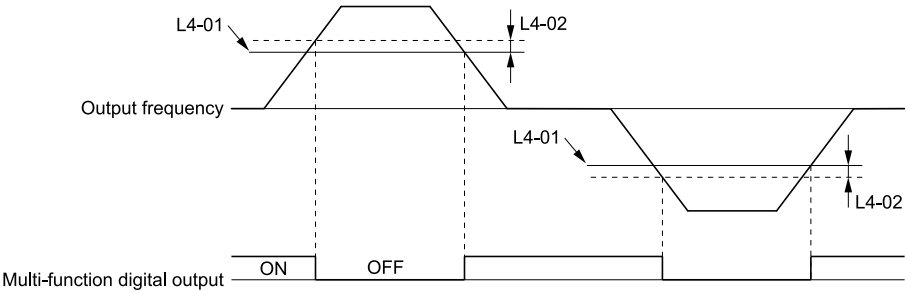

Figure 12.86 Frequency Detection 1 Time Chart
- Figure 12.86 shows the result of the configuration when L4-07 = 1 [Speed Agree Detection Selection = Detection Always Enabled]. The default setting of L4-07 is 0 [No detection during baseblock]. When the speed agreement detection selection is "No Detection during Baseblock", the terminal is deactivated when the drive output stops.